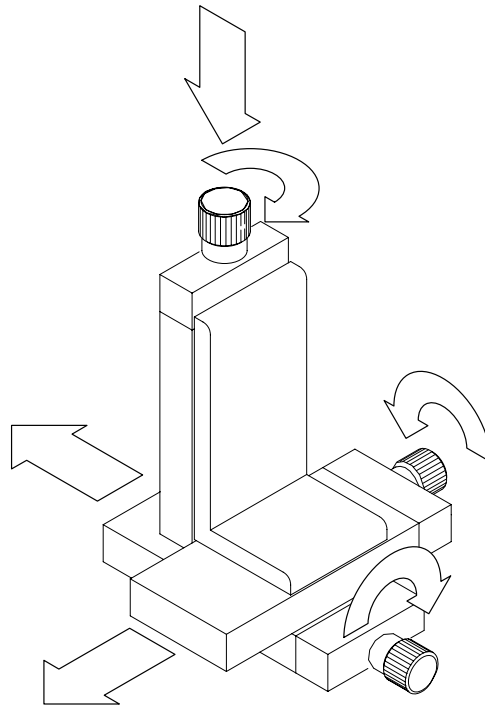

Figure 13: Manipulator Operation
5. Adjust the fine position of the manipulator by rotating the knob on each axis until the probe tip just makes contact with the circuit. The articulating arm will move slowly as each knob is rotated. See Figure 13 for the relationship between knob rotation and axis travel.
8. Adjust the fine position of the manipulator by rotating the knob on each axis until the ground pin compresses and the probe tip just makes contact with the circuit. The articulating arm will move slowly as each knob is rotated. See Figure 13 for the relationship between knob rotation and axis travel.